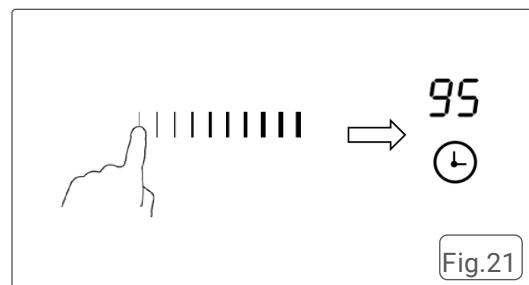

Fig.21
- 6. When the time is set, the timer will begin to count down immediately, and the display will show the remaining time. Fig.21